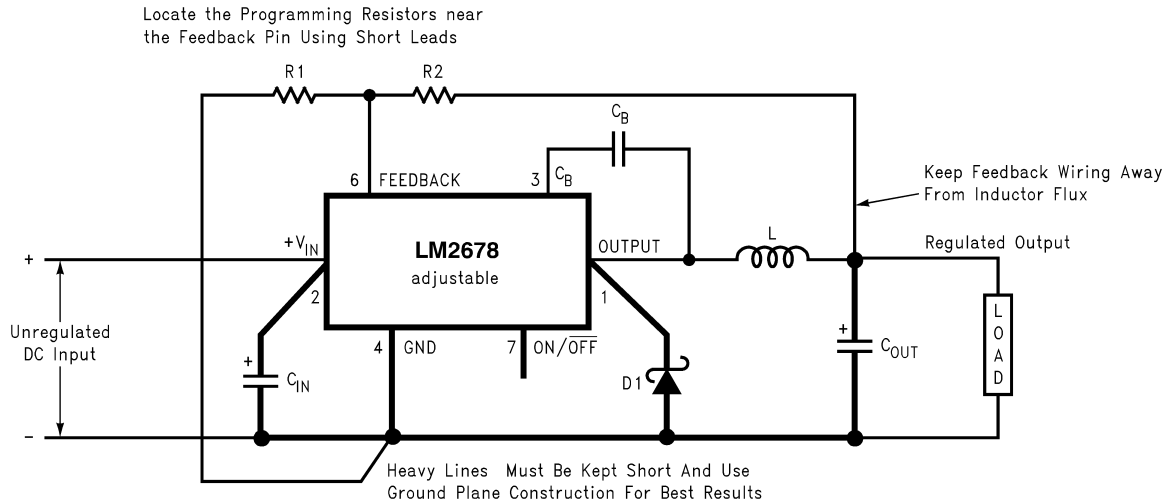

FIGURE 2. Basic circuit for adjustable output voltage applications
Step 2: Select an LM2678S-ADJ. To set the output voltage to 14.9V two resistors need to be chosen (R1 and R2 in Figure 2). For the adjustable device the output voltage is set by the following relationship: